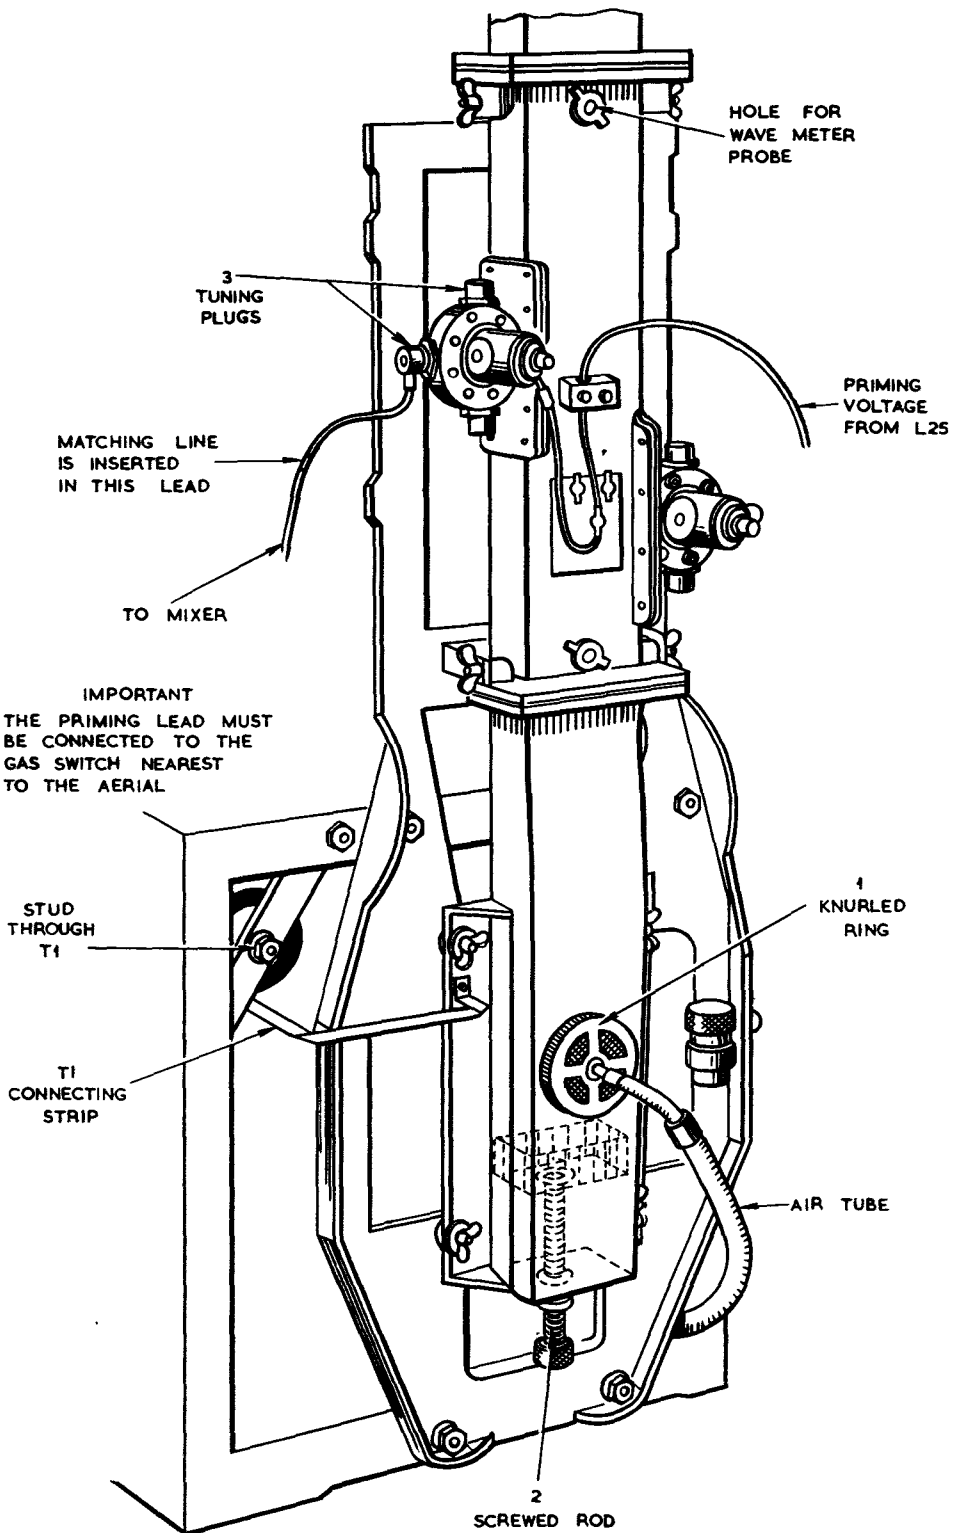

Fig. 3. Output unit S.E.2
possible into the waveguide. The probe can be seen by removing the air-pipe (2) and unscrewing the inspection cover (fig. 3, item 1).
- (3) Check that the magnetron lies centrally between the pole faces of the magnet (3) without touching either. Slacken the three bolts (4) securing the magnet and adjust its position if necessary.
- (4) Check that the magnetron filament leads (5 and 6) are not taut; they should be separated from each other and clear of the air cowling. If the leads are taut, lower the collar (7) on the filament transformer (8).
- (5) Check that the magnetron filament transformer primary leads are connected to the correct terminals. The terminals are 0 and 2.
- (6) Adjust the spark gap (9) on top of T3 at the rear of the compartment, to one inch. The rearmost arm is variable.
- (7) Set the waveguide matching piston (fig. 3, item 2) to its mid-position.
Soft rhumbatrons (fig. 3)